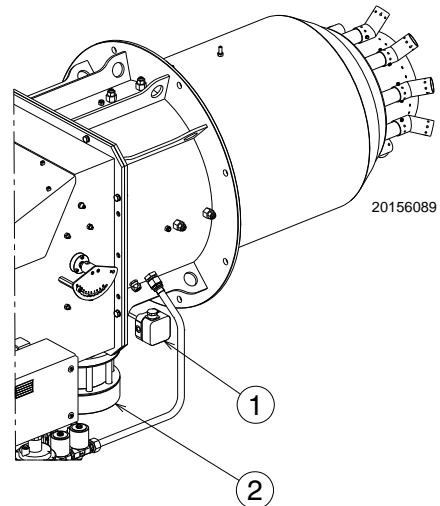

Fig. 25
The gas train is pre-arranged to be connected to the burner at the flange 2)(Fig. 25).
Gas pressure measured at test point 1)(Fig. 25), with:
Pressure loss at gas butterfly valve 2)(Fig. 25) with maximum opening: 90°.
- subtract the pressure in combustion chamber from the gas pressure measured at test point 1)(Fig. 25).
$$\begin{aligned} \text{Gas pressure at test point 1)(Fig. 25)} &= 66.7 \text{ mbar} \\ \text{Pressure in combustion chamber} &= 10 \text{ mbar} \\ 66.7 - 10 &= 61.7 \text{ mbar} \end{aligned}$$
To calculate the required gas pressure at test point 1)(Fig. 25), set the maximum modulating output required from the burner operation:
- read, on the right (column 1), the pressure at the test point 1)(Fig. 25).
pressure required at test point 1)(Fig. 25).